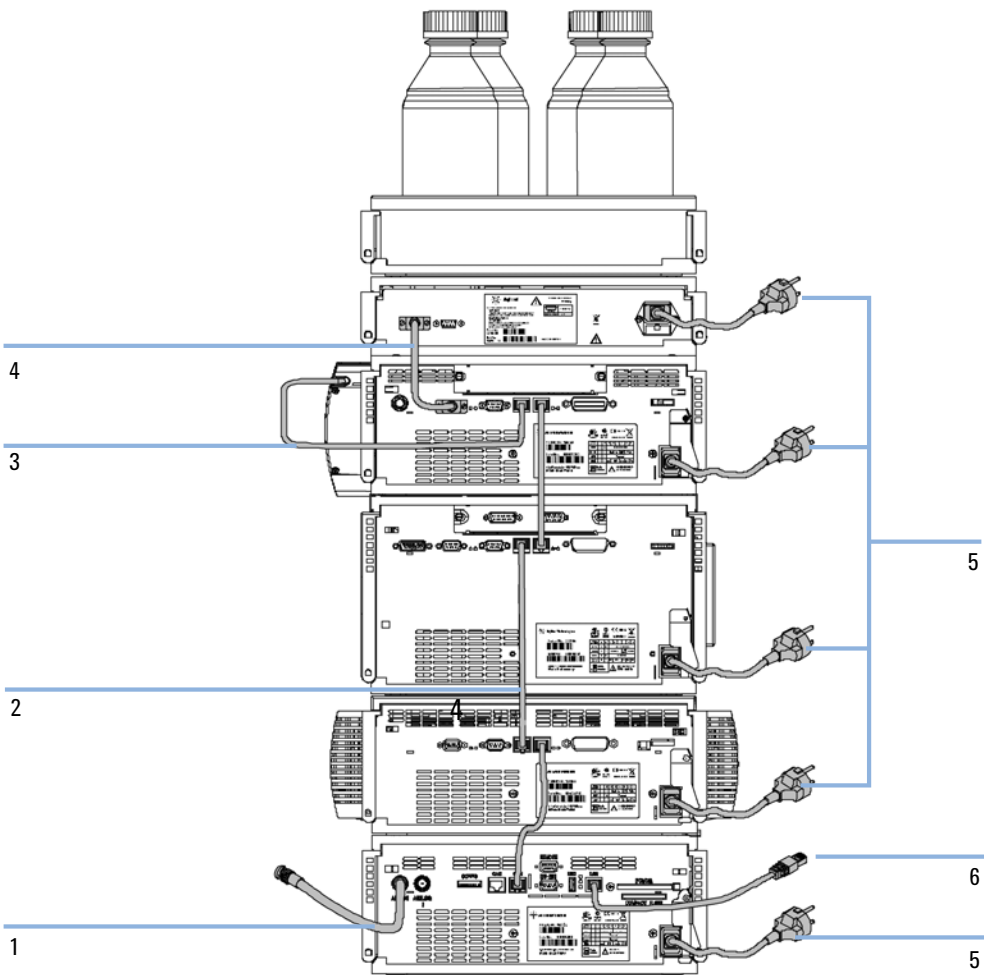

Figure 6 Recommended Stack Configuration (Rear View)
- 4 Connect the CAN cable to the CAN connector of the next module, see Figure 6 on page 34.
- 4 Connect the APG cable to the APG remote connector of the pump, see Figure 6 on page 34.